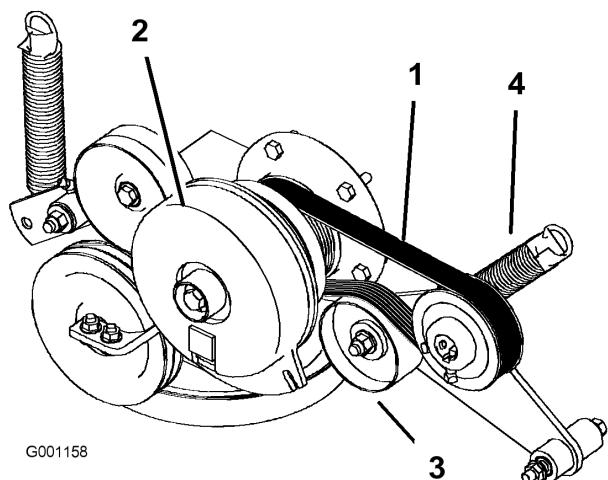

Figure 55
3. Remove the spring from the idler arm (Figure 55).
4. Install the new belt around the engine and hydro pump pulley (Figure 55).
6. Install the spring to the idler arm (Figure 55).